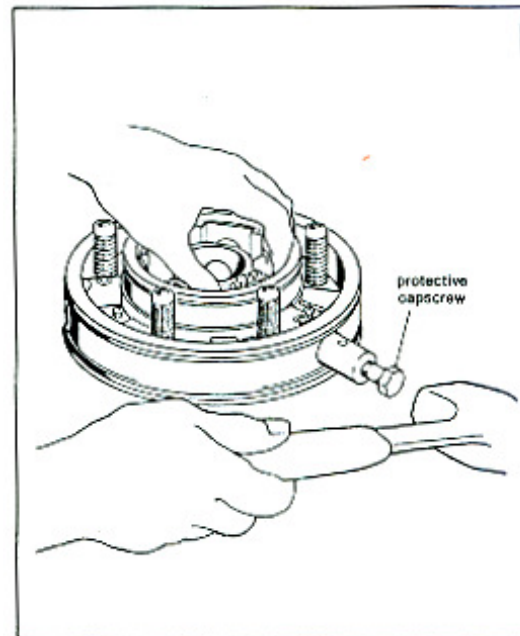

Figure 20. Installing Pinion Shaft in Gear Carrier.
c). (Gloves may be required since gear carrier is hot). Insert protective 3/8-24 cap screw in pinion shaft and tap shaft into carrier bore making sure holes are in line (see fig. 20)